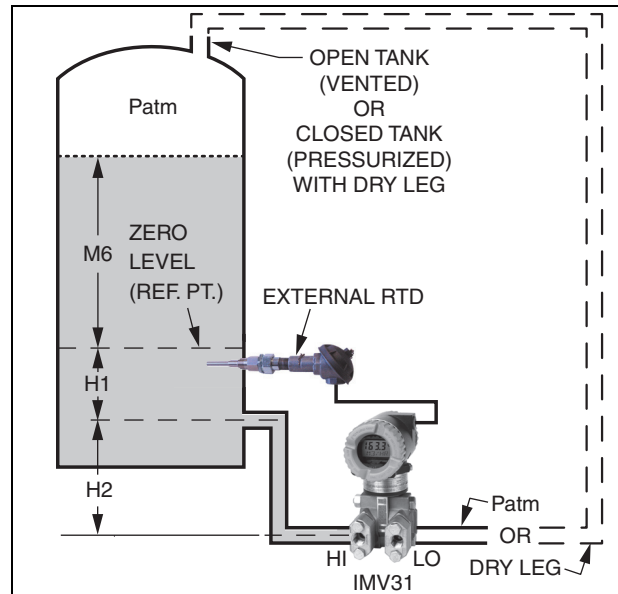

Figure 1. Open Tank (Vented) or Closed Tank with Dry Leg
The IMV31 hardware and firmware can accommodate the following tank configurations to determine the appropriate densities, and to provide accurate tank level measurement. (Refer to Figures 1 and 2 for typical tank configurations.)
- ▶ Referring to Figures 1 and 2, the following heights are user-configurable: